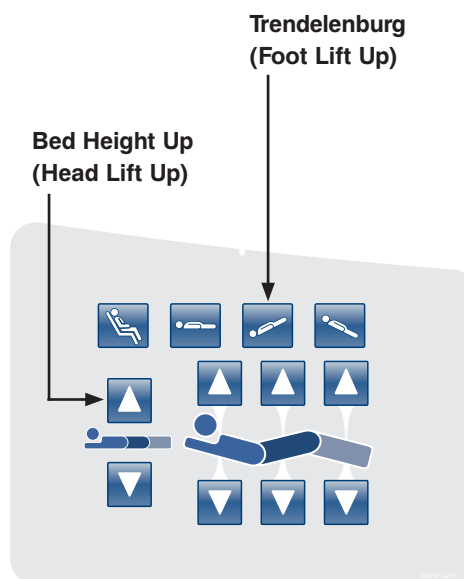

Figure 20: Head Siderail Control Panel - (Right Side Shown)
21. Place the bed at the highest height by pressing simultaneously the **Trendelenburg (Foot Lift Up)** button and **Bed Height Up (Head Lift Up)** button as shown in Figure 20.